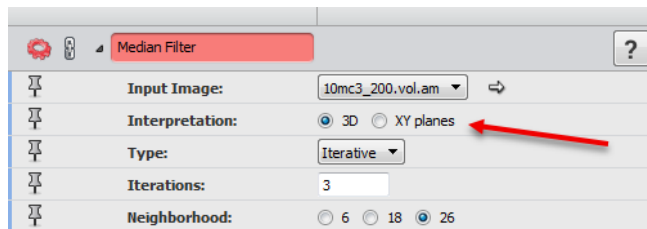

Figure 14.9: Modified parameter of the *Filter > Median Filter* module is highlighted by a red arrow.
- Set the *Filter* interpretation to *3D* (see Figure 14.9).